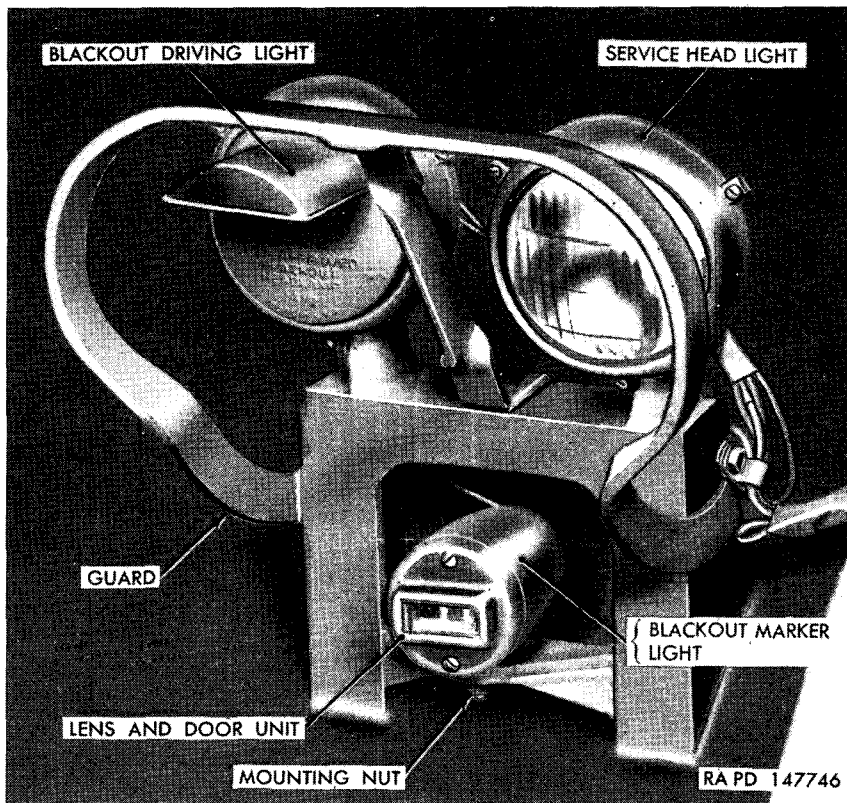

Figure 215. Left service headlight, blackout driving light, and blackout marker light.
c. SERVICE HEADLIGHTS. The service headlights have sealed beam units with "HI" and "LO" beam filaments in each unit. They are mounted on the right and left sides of the hull just inside the fenders (fig. 215). A bracket serves as a protective guard for each headlight assembly.
d. BLACKOUT DRIVING LIGHTS. A sealed beam blackout driving light with "HI" and "LO" beam filaments in each lamp is mounted beside each service headlight (fig. 215).
e. **BLACKOUT MARKER LIGHTS.** A blackout marker light is mounted beside and below each service headlight (fig. 215).
b. INSTALLATION. Position service headlight on mounting bracket (figs. 215 and 216) and secure lightly with lock washer and mounting
a. REMOVAL. Turn light switch (fig. 18) to "OFF" position. Disconnect cables (514, 515, and 91) at bell-type connectors at rear of blackout driving light. Remove mounting nut and lock washer at base of light (fig. 215) and remove blackout driving light.
b. **INSTALLATION.** Position blackout driving light on bracket (fig. 215) and secure lightly with lock washer and mounting nut. Swing light for proper beam direction and fasten in place by tightening mounting nut. Connect cables (514, 515, and 91) at bell-type connectors at rear of light.
a. **REMOVAL.** Turn light switch (fig. 18) to "OFF" position. Disconnect cable (20) at bell-type connector at rear of blackout marker light. Remove mounting nut and lock washer (fig. 215) and remove blackout marker light.
b. **INSTALLATION.** Position blackout marker light on bracket (figs. 215 and 216) and secure with lock washer and mounting nut. Connect cable (20) at bell-type connector at rear of blackout marker light.
c. **REPLACEMENT OF BLACKOUT MARKER LAMP.** Turn light switch (fig. 18) to "OFF" position. Remove two screws (figs. 215 and 216) securing lens and door unit to body and pull off door. Press in on lamp, turn counterclockwise until it is free of socket, and pull out of socket. Insert new lamp in socket, press in, and turn clockwise to secure in position. Position lens and door unit on light body and secure with two retaining screws.